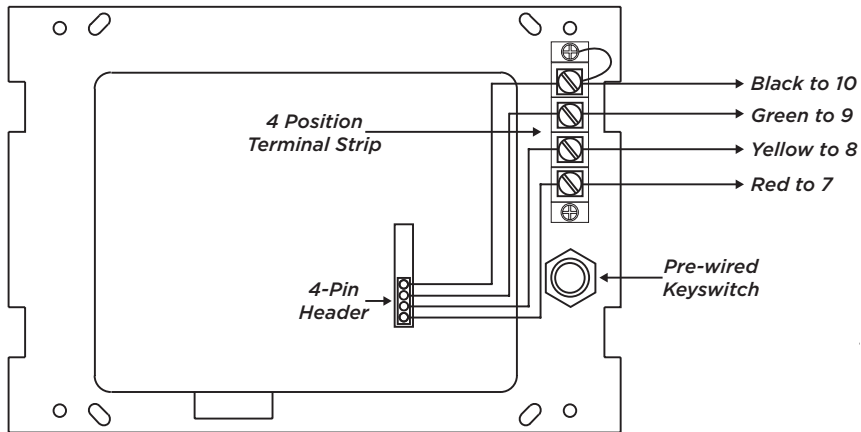

Figure 3: Harness Wiring Diagram
1. Connect a four conductor wire from the 630F backplate terminal strip to panel terminals 7, 8, 9, and 10. See Figure 3.